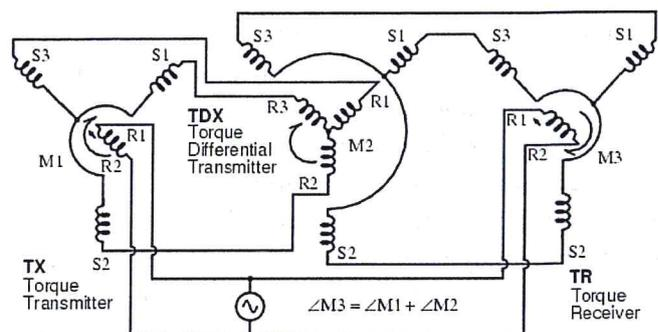

Figure 3-12. A differential synchro system consists of three synchros.
A differential synchro system (*Figure 3-12*) includes not only a Torque Transmitter (TX) and Torque Receiver (TR), but also a Torque Differential Transmitter (TDX) between the two. The basic concept is that the TDX has a three-phase winding on the rotor that accepts two position inputs simultaneously, such that it adds the shaft angle input to an electrical angle input on the rotor inputs, outputting the sum on the stator outputs. The TDX stator electrical angle is displayed by sending it to an RX. For example, a TDX can accept one mechanical input (e.g., control stick), and one electrical input (e.g., AHRS) from the RX, and the sum of the inputs turns the TR rotor. Reversing the stator leads (S1-S3) between the TX and the TDX and between TDX and TR sends the angular difference voltage, instead of the sum of the two position inputs to the receiver. In other words, it subtracts the two angular positions.